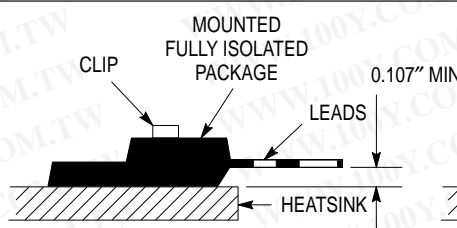

Figure 4. Clip Mounting Position for Isolation Test Number 2
(1) UL Recognized mounting method is per Figure 4.
(2) Proper strike and creepage distance must be provided.